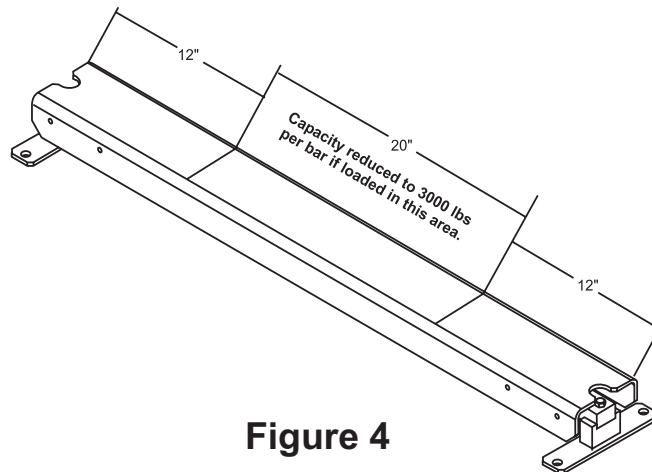

Figure 4
4. The load-bearing capacity of each end of each bar is 2500 lbs., provided the load is applied to the last 12". This results in a capacity of 5000 lbs. per bar, and 10,000 lbs. for a set of two bars. If load will be applied directly to the middle 20" of the bars, the load must be limited to 3000 lbs. per bar (6000 lbs. for a set of two). See Figure 4.